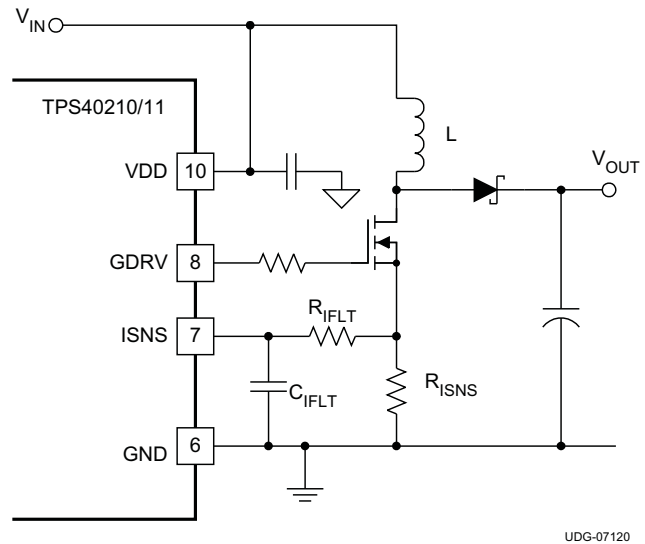

Figure 26. Current Sense Components
- $V_D$  is the drop across the diode in Figure 26
It is possible to increase the voltage compensation ramp slope by connecting the VDD pin to the output voltage of the converter instead of the input voltage as shown in Figure 26. This can help in situations where the converter design calls for a large ripple current value in relation to the desired output current limit setting.
In most cases, a small filter placed on the ISNS pin improves performance of the converter. These are the components  $R_{IFLT}$  and  $C_{IFLT}$  in Figure 26. The time constant of this filter should be approximately 10% of the nominal pulse width of the converter. The pulse width can be found using Equation 20.